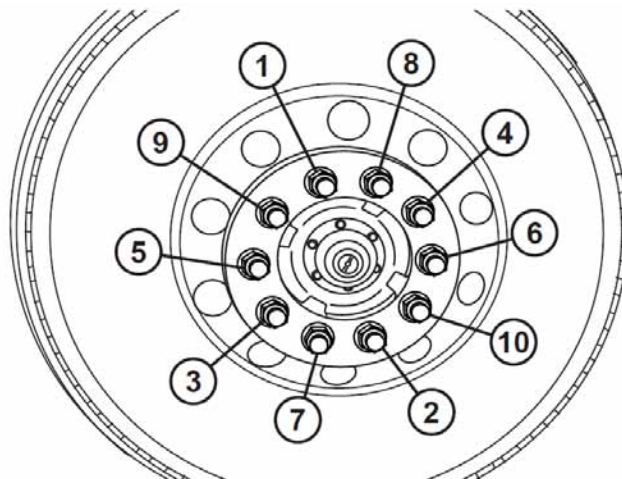

Figure 115
- **Weekly Checks** – Tighten the tag and pusher wheel lug nuts to 450 ob-ft (610 N•m) using an alternating (star) pattern shown (Figure 115).